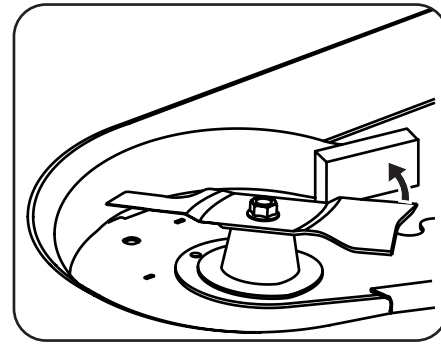

Figure 2
1. Secure the blade from turning counter-clockwise during service by placing a block of wood between the blade and the deck housing, see Figure 2, or wrap a rag around one end of the blade and grasp the blade firmly.